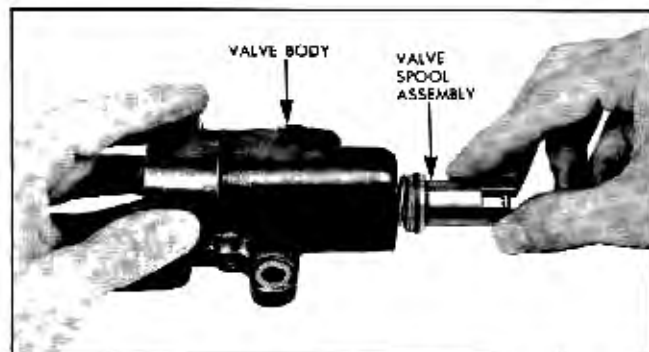

Fig. 9-58 Valve Spool Assembly Started in Valve Body
1. Carefully insert valve spool assembly into valve body. Valve spool and body are selectively fitted and have very little clearance. Only if properly started can spool be inserted in valve body (Fig. 9-58). **NOTE:** Do not attempt to force spool into body.